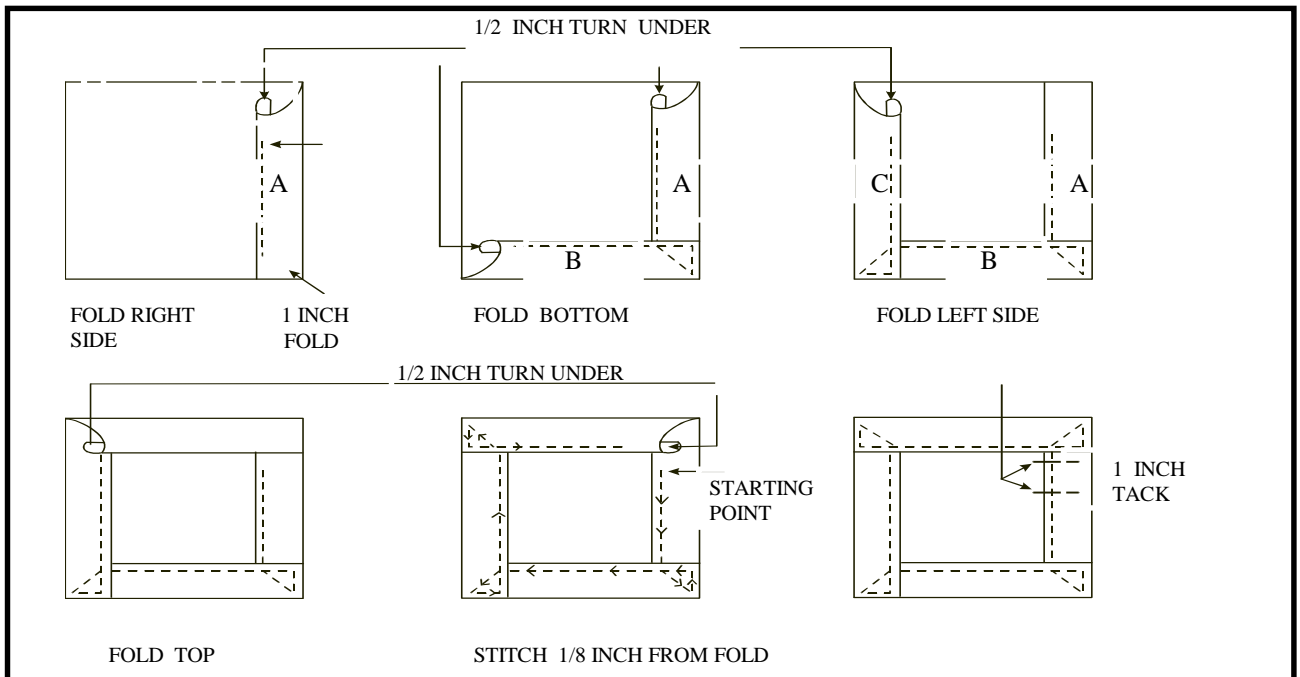

Figure 8-5. Four-sided hem
(3) Four-Sided Hem. A four-sided hem (Figure 8-5) is used to finish a rectangular piece of canvas completely on all sides. To make a four-sided hem--